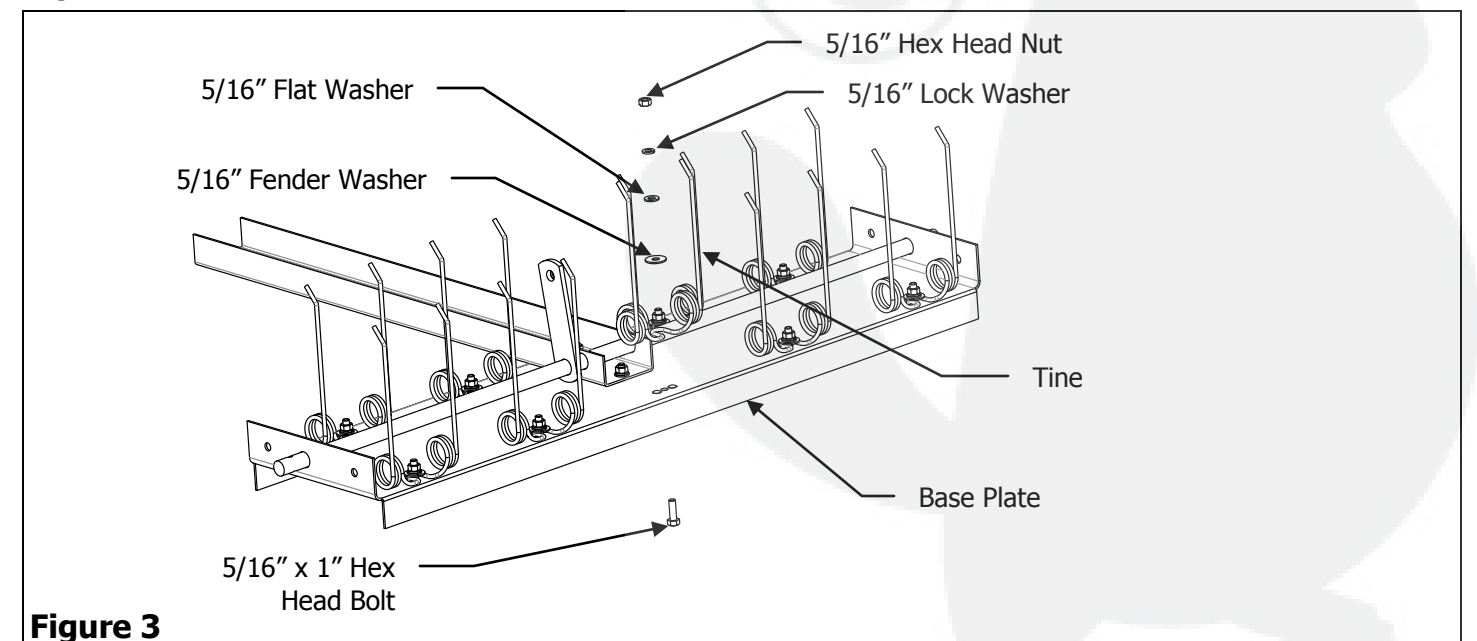

Figure 3
3. Insert a 5/16" x 1" Hex Head Bolt into one of the nine remaining holes in the Base Plate, place a 5/16" Fender Washer onto the bolt followed a 5/16" Flat Washer and a 5/16" Lock Washer. Loosely attach a 5/16" Hex Head Nut. Repeat process on the remaining eight holes. Slide a Tine between a Fender Washer and the Base Plate, secure Hex Head Nut, repeat on the remaining eight Tines. See Figure 3.